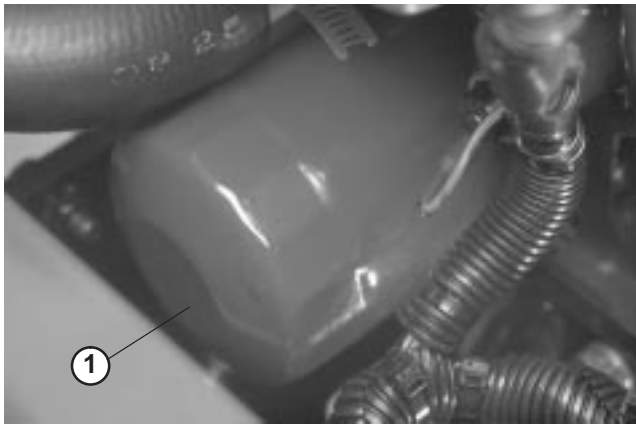

Figure 48
2. Remove the engine oil filter (Fig. 48). Apply a light coat of clean oil to the new filter seal before screwing it on. **Do not over-tighten.**